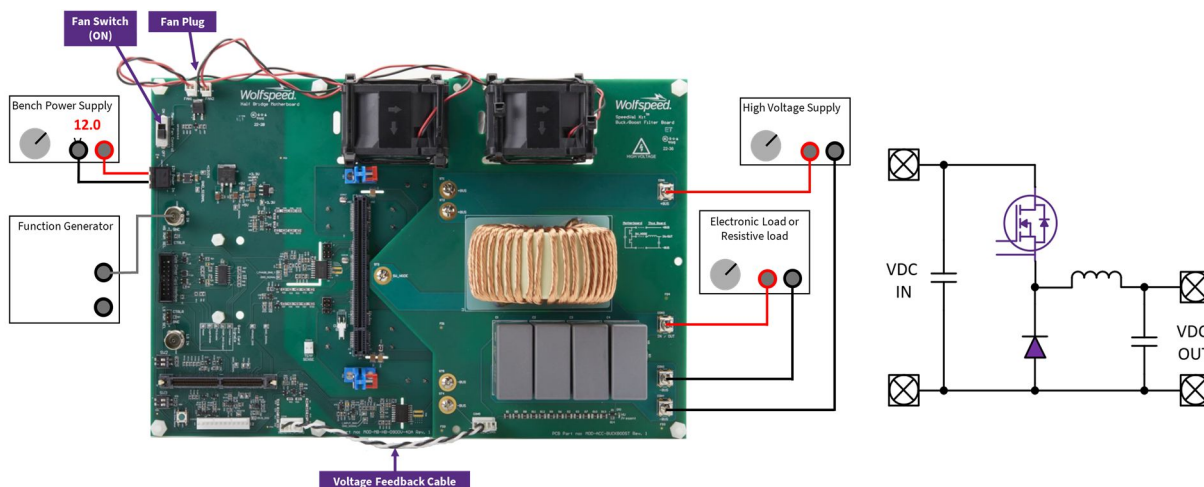

FIGURE 46: CONNECTION DIAGRAM FOR ASYNCHRONOUS BUCK CONVERTER
- Connect buck/boost filter board to the motherboard using the 5 screws and terminal nuts on the motherboard (Figure 46).